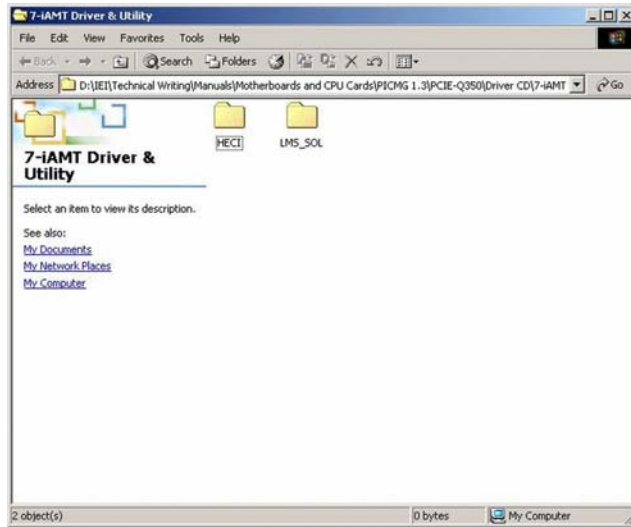

Figure 7-68: IAMT Driver Directory
Step 13: Go back to **iAMT and Utilities** directory (**Figure 7-68**).